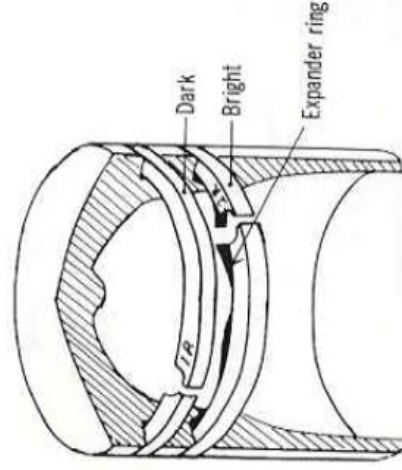

Fig. 8-3-26
- B. Install with the stamped marks facing upward. (Fig. 8-3-26)